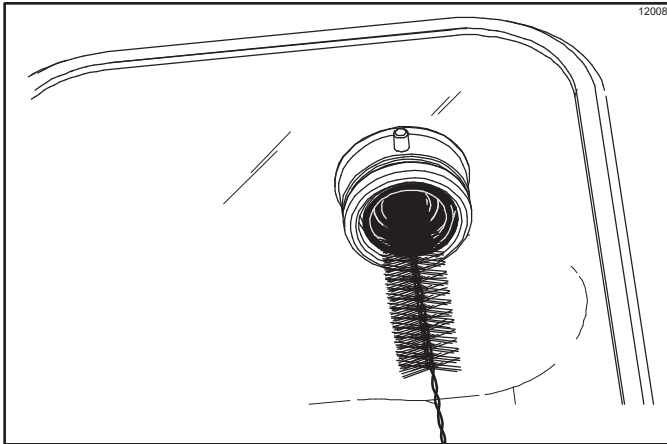

Figure 6-44
- Using the black brush, clean the drive hub opening in the rear wall of each mix hopper. (See Figure 6-44.)